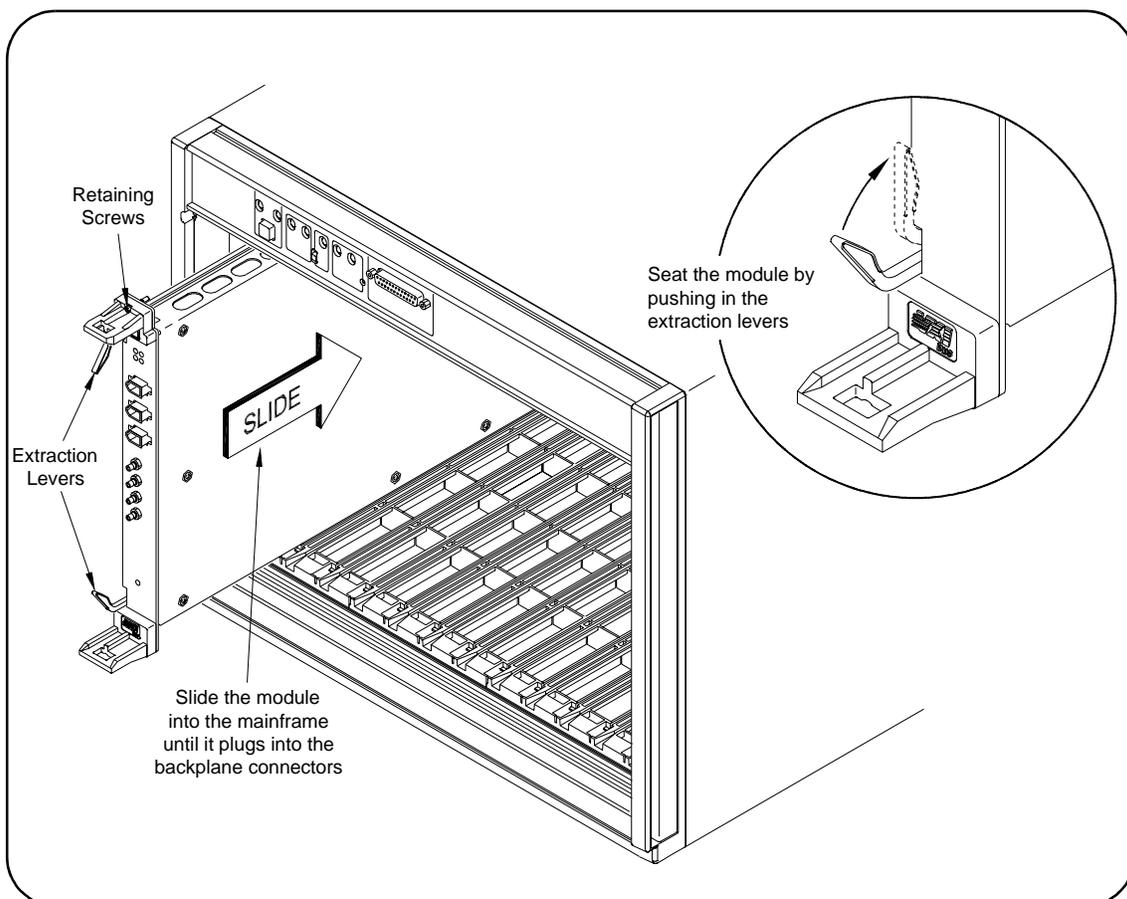

Figure 2-6. Installing the HP E8491B in the VXI Mainframe.
2. Insert the E8491B into mainframe slot 0 by aligning the module with the guides inside the mainframe (Figure 2-6). Slowly push the module into the slot until it seats in the backplane connectors. It may be necessary to pull out (not remove) the retaining screws in order to seat the device securely in the connectors.